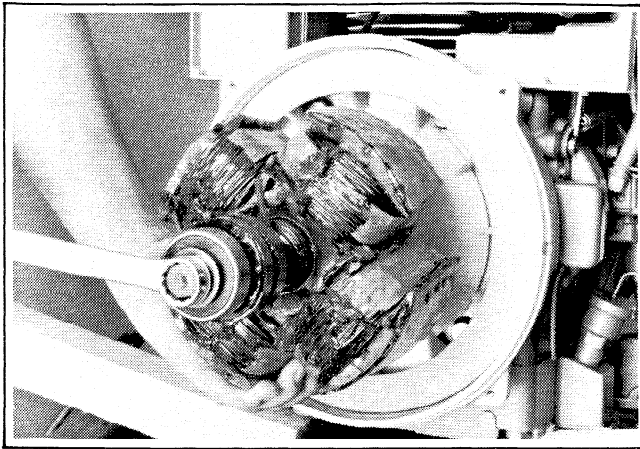
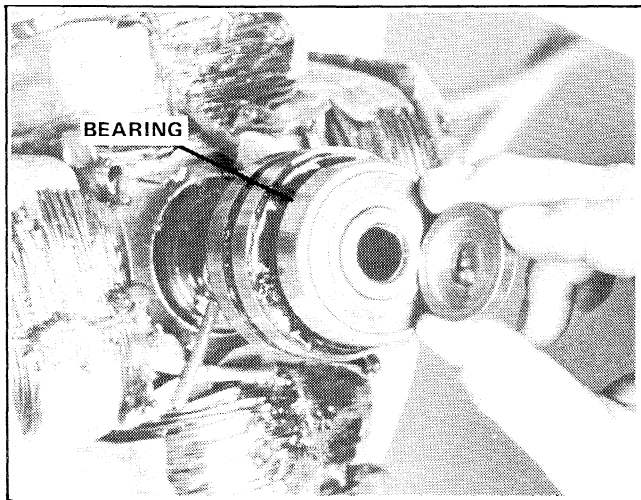
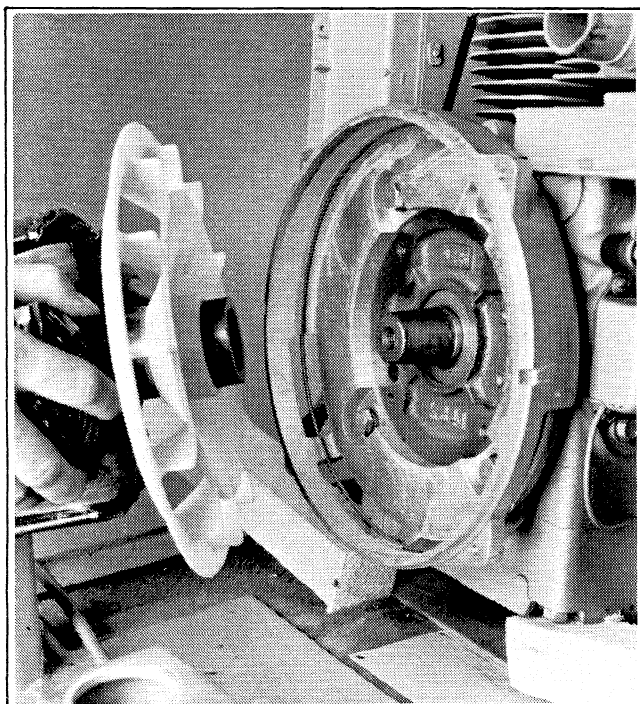

Figure 6-17. Rotor Thru Bolt
Figure 6-18. Rotor Bearing
Figure 6-19. Removing Rotor
15. Loosen thru bolt one or two turns and bump the thru bolt with a lead mallet to break the rotor loose (4.5KW, 5.5KW, 7KW only) to remove the rotor (Figure 6-17). If the bearing (Figure 6-18) turns freely and has no sign of damage do not remove. The fan will be removed with the rotor (Figure 6-19).